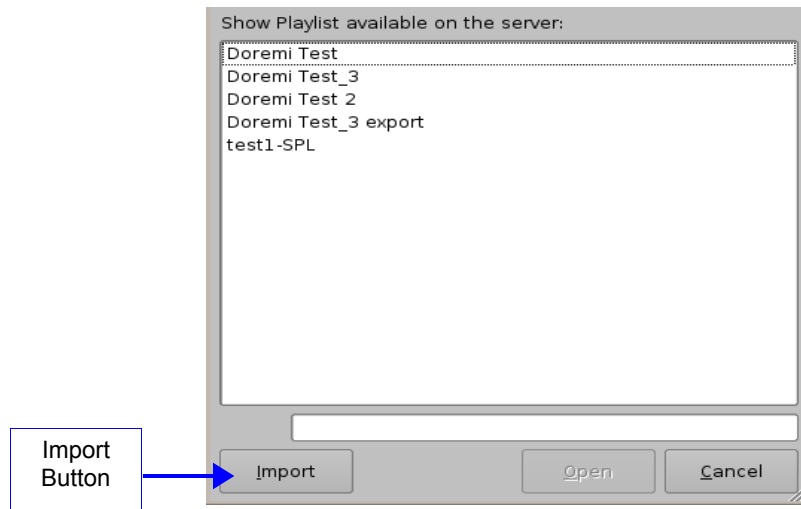

Figure 164: SPLs Available on Server Window
- A window will appear with SPLs to import (Figure 164).